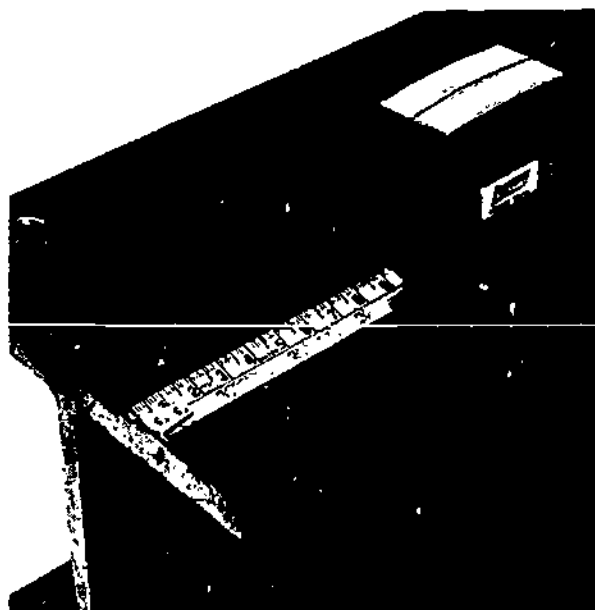

Figure 2-30. Measuring Length with a Tape
**Measuring Length** Use the hook on the end of the tape; it will slide out on the two rivets to give a true measurement (Figure 2-30).